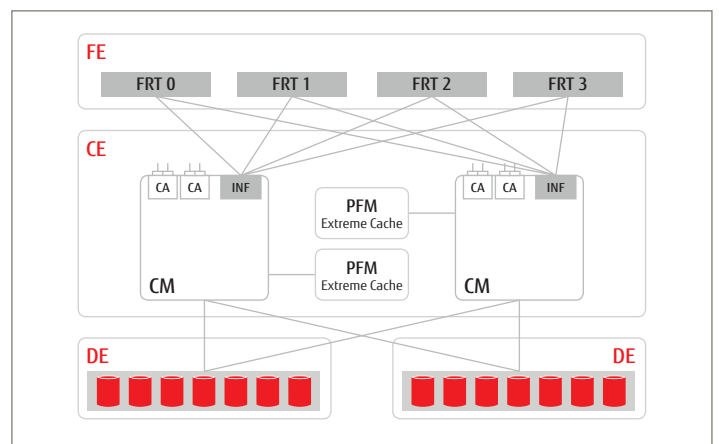

Figure 3
The Controller Modules residing in pairs in a Controller Enclosure are interconnected via the Front-end Enclosures (FE) consisting of four redundant Front-end Routers (FRT) which enable PCIe 3.0 high-speed data interchange between the controllers (Figure 3).